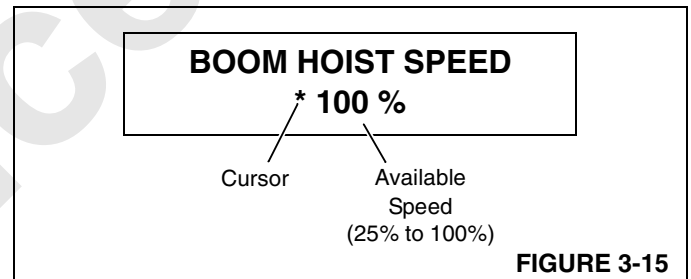

FIGURE 3-15
2. Access boom hoist speed screen (Figure 3-15) by depressing limit bypass switch or turning key clockwise and scrolling up (with selector next to display screen). Once this step is performed, release switch or key any scroll up or down through diagnostic screens until boom hoist speed screen appears.